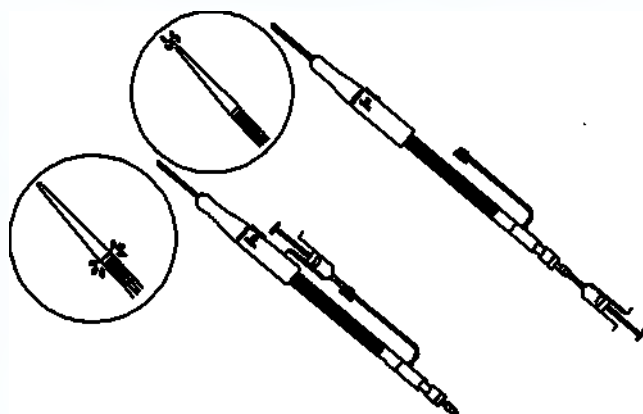

Рис. 3 Промывка внутренней трубки и внешнего интродьюсера
- ◆ Attach the syringe with heparinized saline to the luer hub and hemostatic valve and flush separately to evacuate air from the inner tube and the outer sheath.(Fig.3)